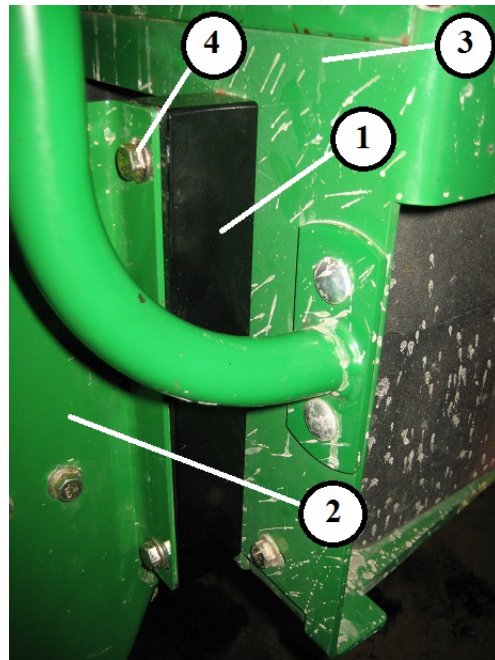

Figure 82. Ladder Spacer Installation
Re-install the ladder with spacers between the ladder and the machine frame. Fasten with M10 x 50 flange bolt (4), 2 for each spacer, supplied. See Figure 82.